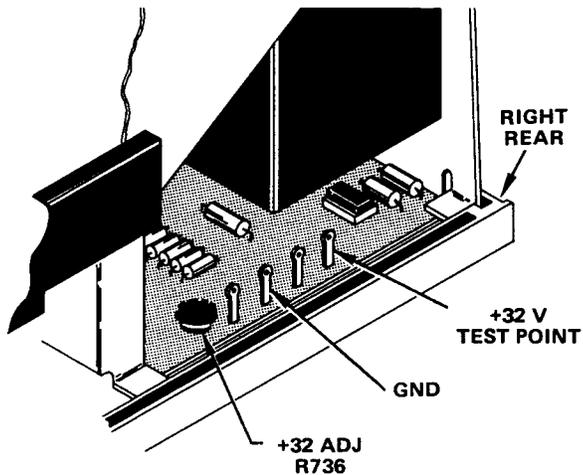
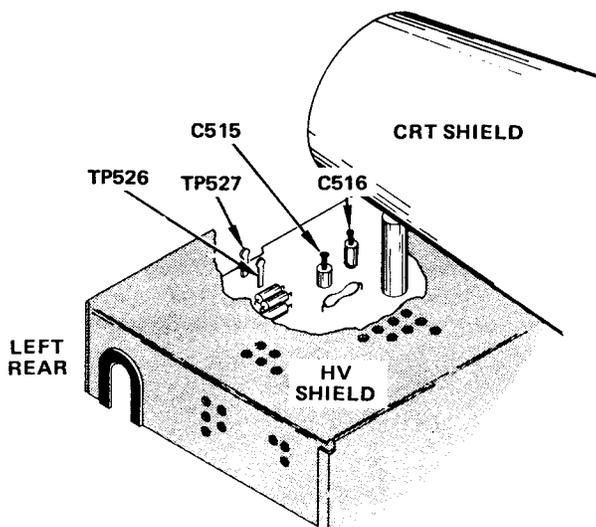

Figure 5-16. +32 volt test point and adjustment location.
Figure 5-17. Crt and Z-Axis test point and adjustment locations.
(3) Preset front panel controls as follows (set both vertical channels and horizontal sweeps the same unless otherwise indicated):
(4) Do not preset ASTIG and TRACE ROTATION. They will be adjusted later.
(5) Throughout the procedure INTEN, FOCUS, and LEVEL may be adjusted as necessary to obtain a visible, well defined, and stable display. Occasionally, these controls may be set by a procedural step.
b. +32 Volt Power Supply (Figure 5-16).
(1) Connect a digital voltmeter between +32 test point and GND.
(2) Adjust +32 V ADJ, R736 for a +32.0 voltage reading.
(3) Disconnect the voltmeter.
c. Crt Bias (Figures 5-17 and 5-18).
(1) Set A AND B TIME/DIV to X-Y.
(2) Connect a digital voltmeter between TP526 and GND.
(3) Set INTEN for about +20 volts (within 0.5 volt) voltage reading.
(4) Disconnect the voltmeter.
(5) Adjust FOCUS and ASTIG for a well defined spot (if spot is not visible, adjust CRT BIAS, R532 until it is; then adjust FOCUS and ASTIG).
(6) Adjust CRT BIAS, R532 until the spot is just visible.
d. Z-Axis Compensation (Figure 5-17).
(1) Set A TIME/DIV to .5 μ s.